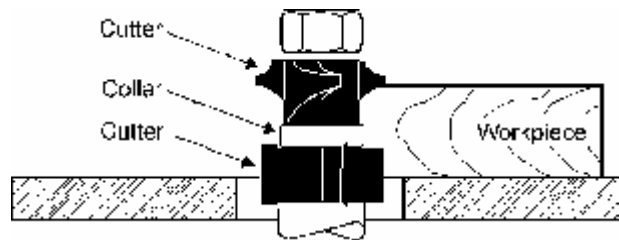

Figure 42
- Using the collar between the two cutters has the advantages and disadvantages of the first two procedures, and is frequently used where both edges of the work are to be molded, Figure 42.